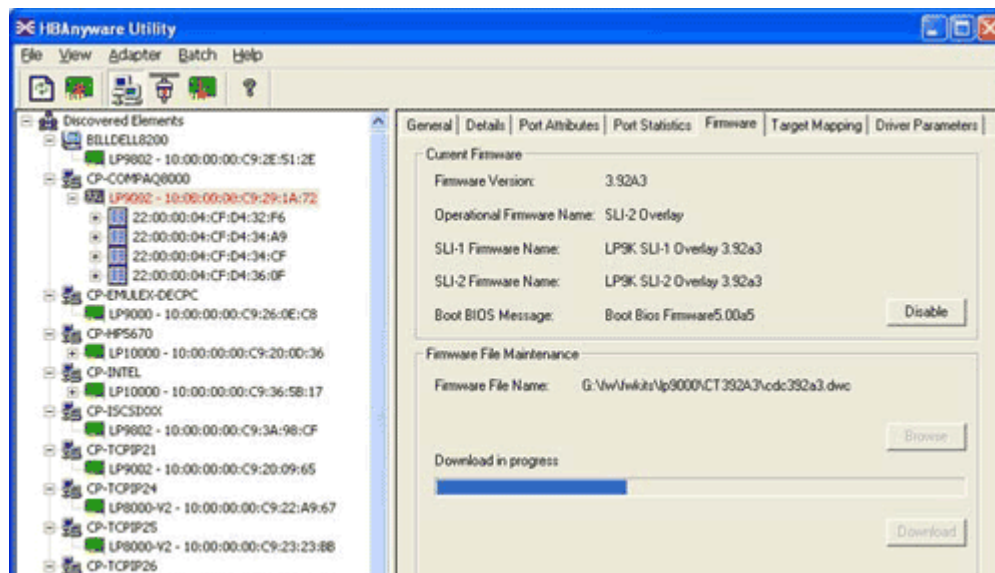

Figure 44: HBAAnyware Utility, Firmware Tab
1. Start HBAware. If the x86 BootBIOS bootup message is enabled when you boot the system (**Firmware** tab, button title is **Disable** - Figure 44), skip to step 2.
2. If the x86 BootBIOS bootup message is enabled when you boot the system (**Firmware** tab, button title is Disable - Figure 44), skip to step 3. Otherwise continue with step a.